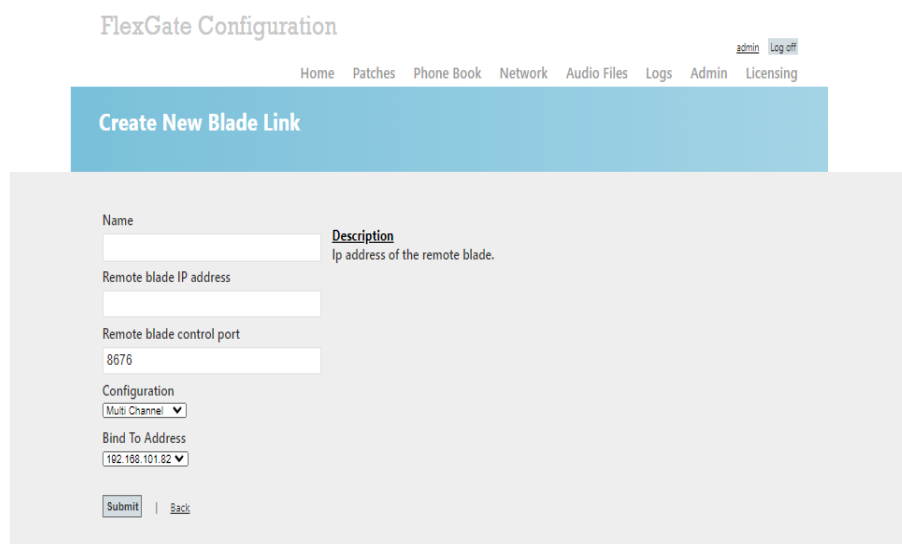

Figure 6-7: The FlexGate configuration page for Blade-Link.
2. Click on the "Blade Link" section on the left side panel to create the new interface and will look like Figure 6-7.